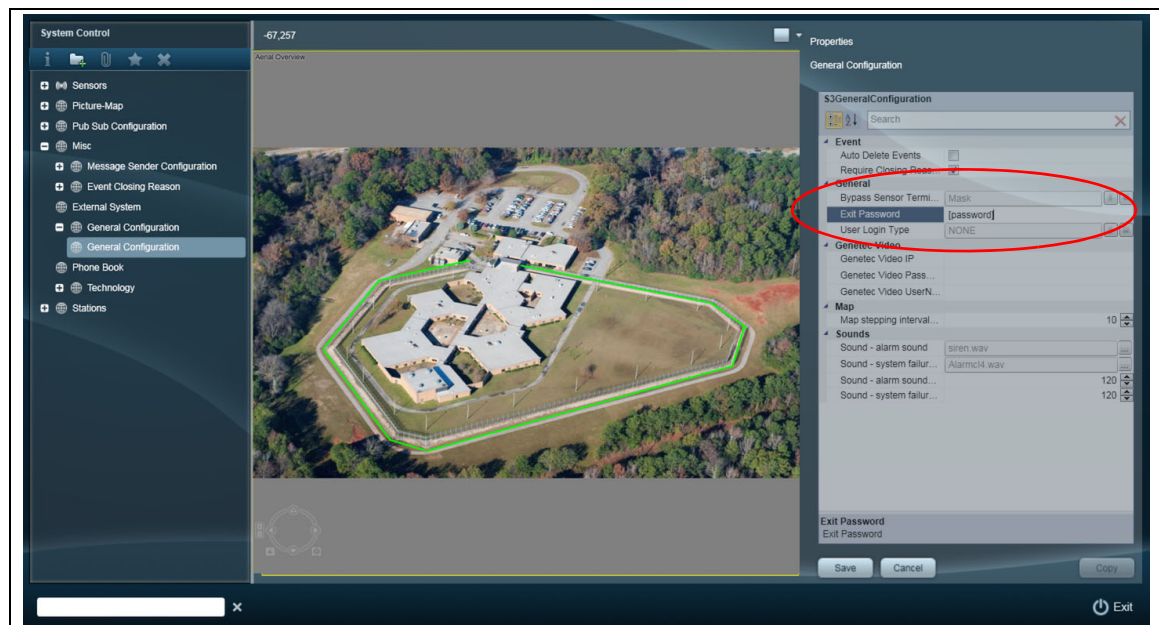

Figure 30: Configure the Exit Password
2. Select **Misc > General Configuration** (see Figure 30:).